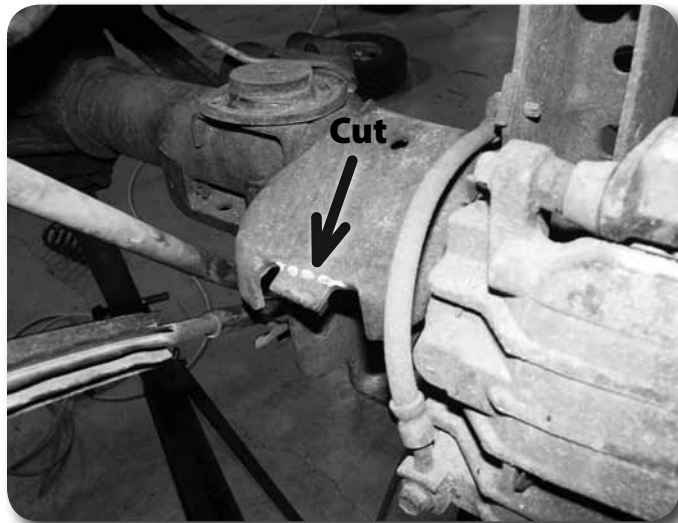

Figure 41
15. Mark and cut the small tab protruding out on the top front end of the lower control arm mounts so that a single straight edge is left. Figure 41
16. Loosely mount the provided bump stop brackets on the top of the lower control arm axle mount using the existing hole Figure 41 and 7/16" hardware from bolt pack. The longer end of the mounting plate will go to the front of the vehicle Figure 42.